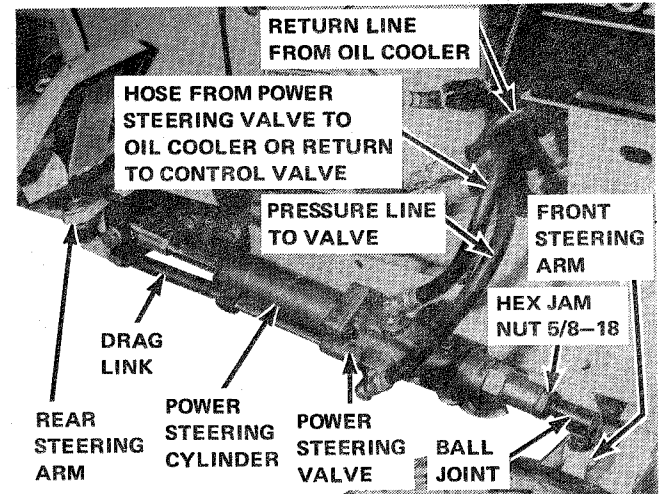

Figure 9
C. The third hose attaches to the lower connection on the oil cooler and the top connection of the power steering valve with 45° elbow and adapter. See figure 9.